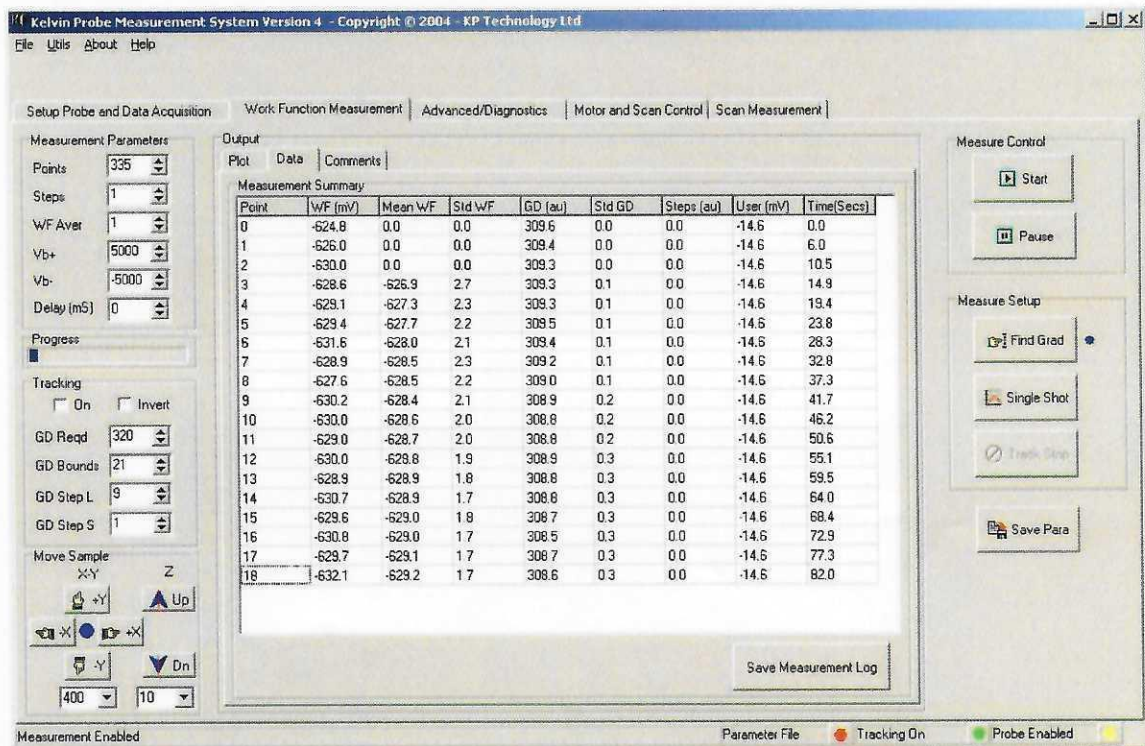

Figure 19. Example of the Measurement Data tab
7. Pressing upon the data tab, displays a review of the measurement, together with mean and std. devn. of selected data, see Figure 19.